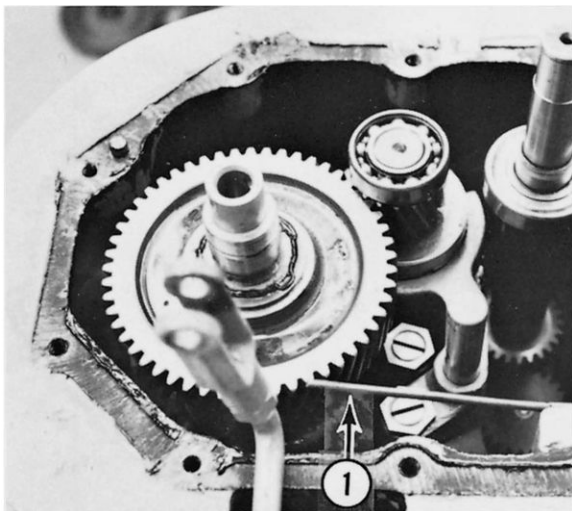

**Fig. 11-27**
K. Install the key and the upper planetary gear (1, Fig. 11-27) with the top (marked) side up.
L. Install the shim (2, Fig. 11-27) with the shoulder side up.
M. Install the spacer and the upper ball bearing (3, Fig. 11-27) on the clutch shaft.